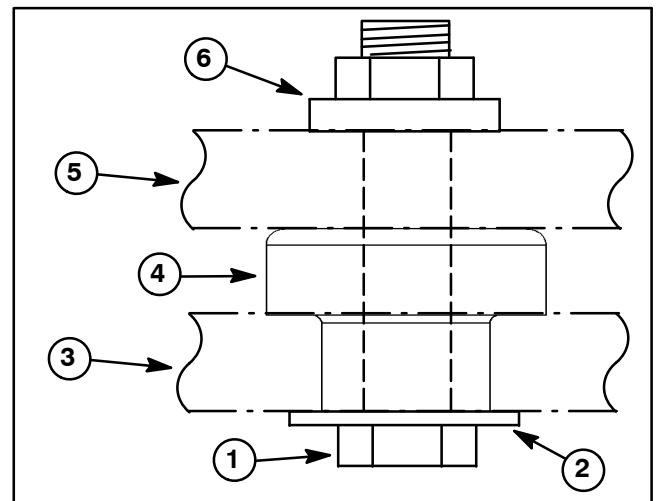

Figure 25
2. Make sure that isolation mounts are positioned in the swing arm so that the flange is positioned between the swing arm bracket and engine tray location (Fig. 25).